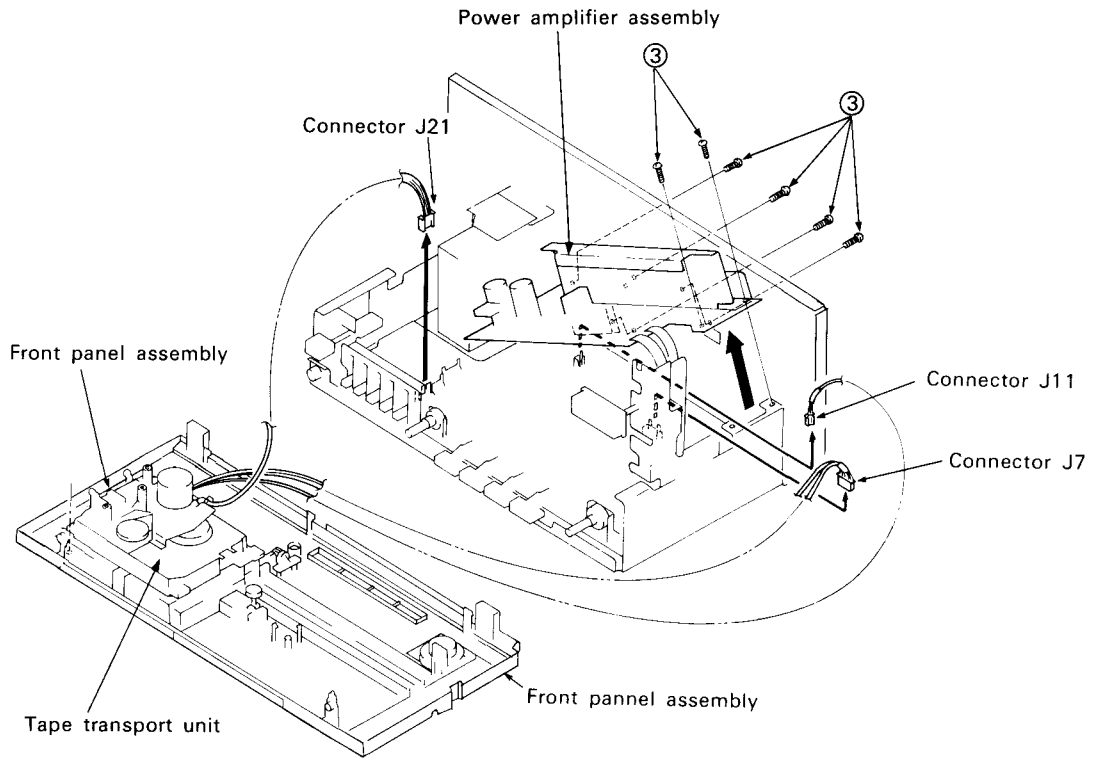

Fig. 3-2
1. Remove 7 pieces of screw ①.
3. Remove 2 pieces of screw ② and 1 piece of nut ②.
4. Push the claw at the bottom of chassis, remove the Front panel assembly, and pull out toward you. Remove the LED assembly (A) and (B) from the Front panel assembly.
5. Remove 6 pieces of screw ③, and enable the Power amplifier assembly to move upward. (See Fig. 3-2)